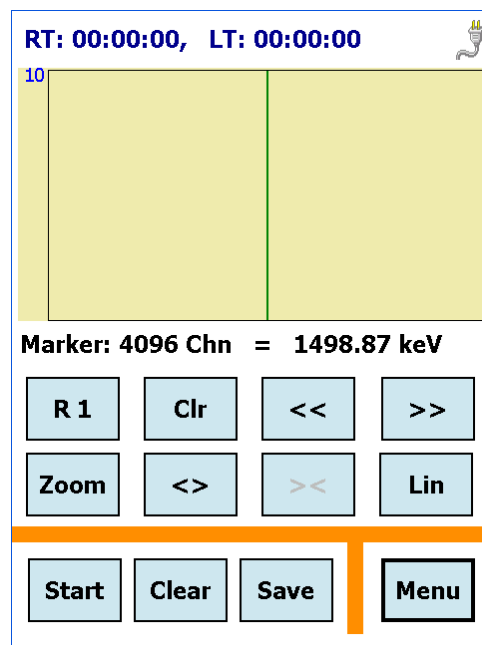

Figure 10. The Home Screen.
- As soon as power is applied, the PDA boots automatically, the cooler begins running, and the Micro-trans-SPEC software application starts up at the Home screen (Fig. 10). The software requires a few seconds to complete initialization, then becomes active. If a user password has been set, enter the password according to Section 4.1.7.1.
- When you first turn the unit on, it starts on the Home screen, as shown in Fig. 10. Tap **Menu** to open the main Menu.